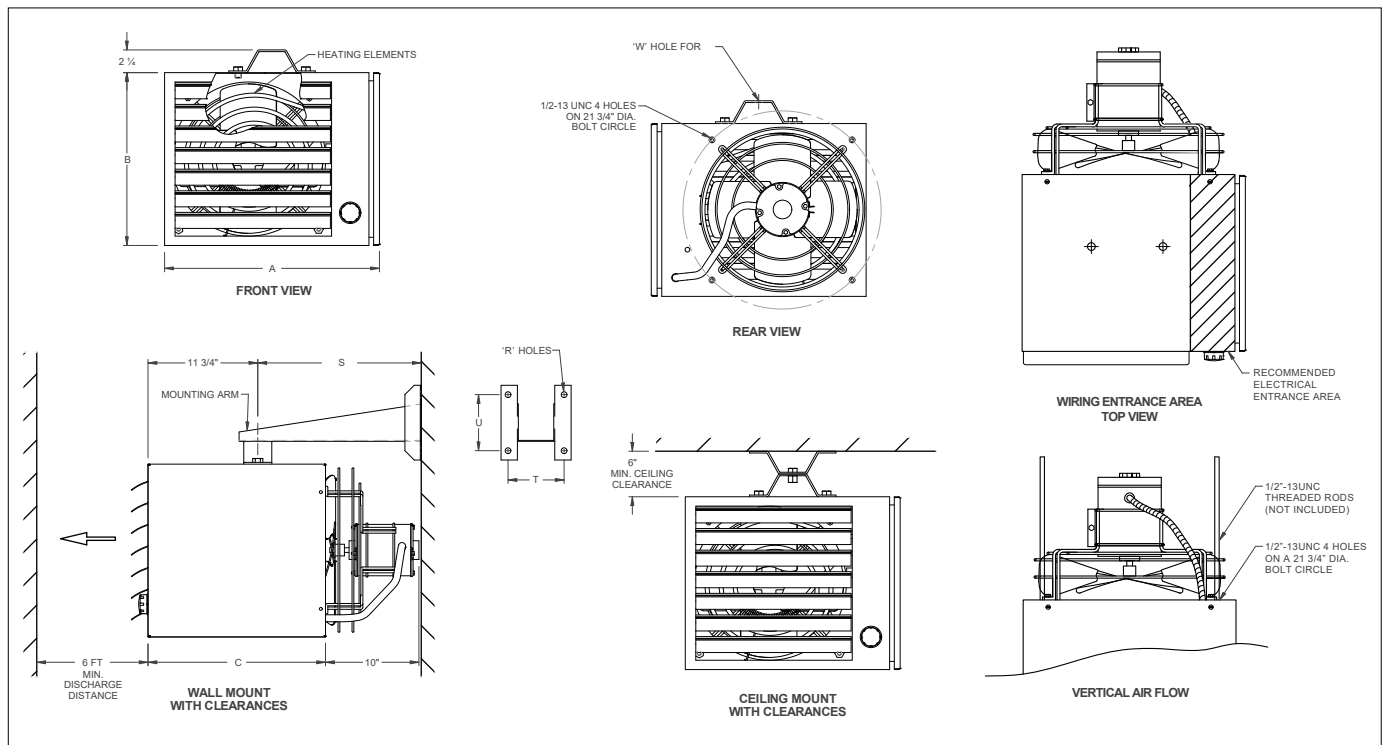

Figure 1 – Mounting Clearance
1. Ensure there are no obstructions that may impede the heater’s air inlet or discharge. Refer to Figure 1, page 4, for minimum clearances.
4. The heater is CSA approved to operate with vertical down flow or horizontal air flow discharge. Refer to Figure 1, page 4 and Table 2, page 4 for vertical down flow and horizontal air flow mounting recommendations.
- 2.3 The control cabinet of the heater is constructed to EEMAC 12 standards and as such, we are not permitted to supply knockouts. After selection of the conductor and conduit entrance sizes, punch the appropriate hole into the control cabinet. We recommend the hatched area indicated in "Wiring Entrance Area - Top View" of Figure 1, page 4 be used for ease of internal electrical connection.